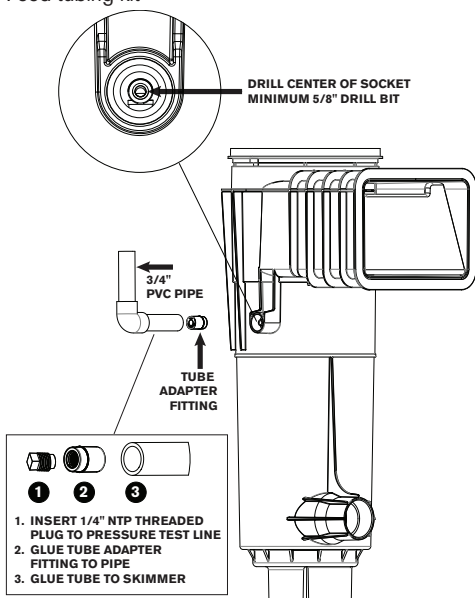

Fig. 2
2. Plumb a loop in the 3/4" line above water level and then back down before crossing yard to the equipment to avoid this line filling with water. Fig. 2